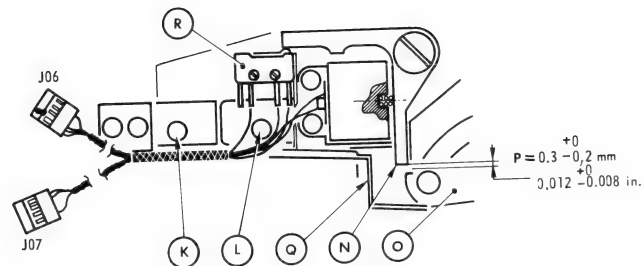

Figure 4.2.2b
- Unscrew the two screws K and L (figure 4.2.2b)
- Front door closed displace the door safety latch assembly so as to obtain an air gap P. (See figure 4.2.2b)